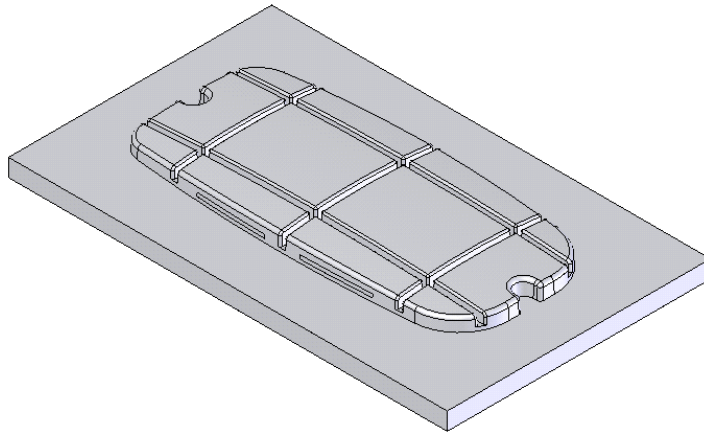

Figure 17-59 Final core
- Extract the Core, refer to Figure 17-59.
The final core is shown in Figure 17-59.